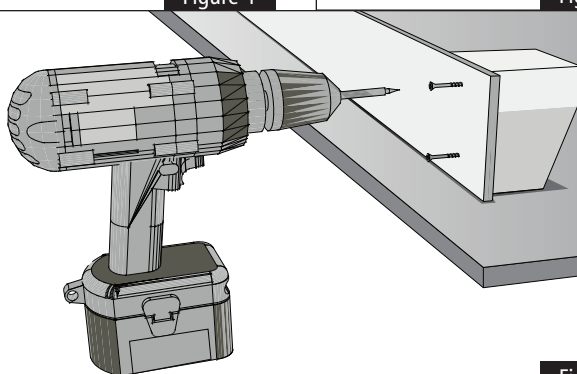

Figure 3
- 4** Insert two 1" flat head wood screws to secure the leg to the toe kick overlay as shown in Figure 3.